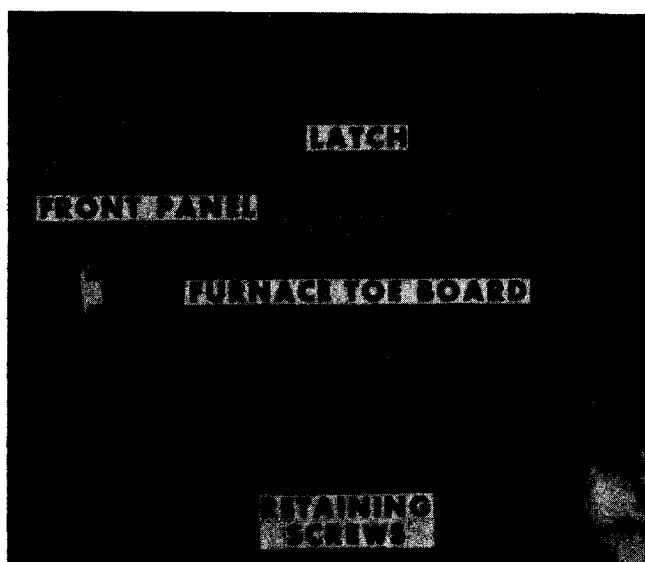

Figure 5 – Removal of Furnace Toe Board
2. Remove toe board in front of furnace at floor level (Figure 5) by removing two retaining screws. Then remove front panel from furnace.
6. Install furnace toe board with two retaining screws (Figure 5).